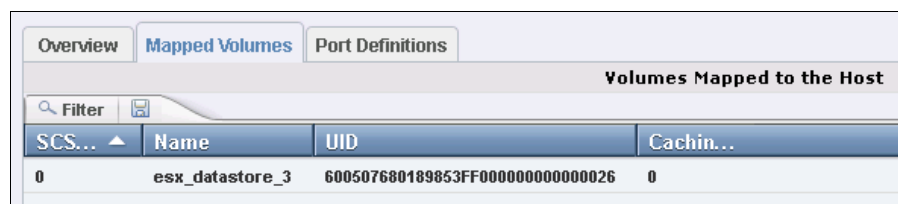

Figure 5-45 Mapped volume to ESX FC host
1. Right-click your VMware ESX Fibre Channel host in the Hosts view, select **Properties**, and then click the **Mapped Volumes** tab (Figure 5-45).